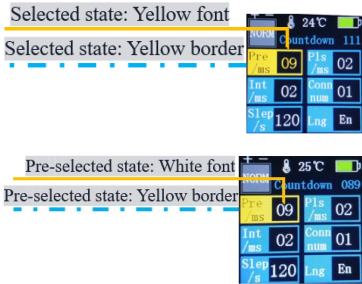

Fig 5
3. Menu Display: Long press the settings menu button to enter the menu. There are a total of 6 adjustable parameters. Each selected parameter has two states: pre-selected and selected. Switch between states by short-pressing the menu settings button, as shown in Figure 5.